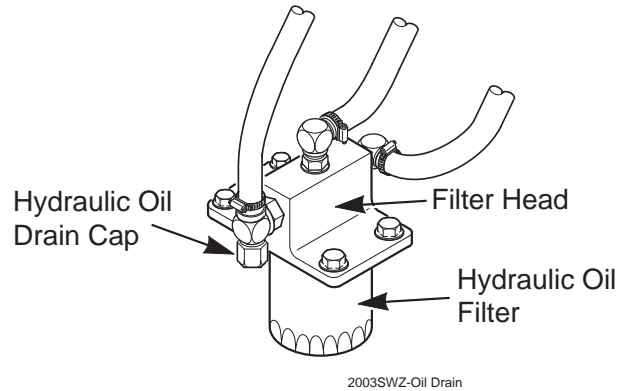

Figure 12 Hydraulic Oil Drain Cap
2. Place a suitable container under the hydraulic oil drain. Remove the fill cap from the reservoir. Remove the drain cap from the T-Fitting located on the hydraulic system filter head. (See Figure 12). Allow the fluid to drain into the container and properly discard it.
1. Remove the oil filter element (Figure 12) and properly discard it. Fill the new filter with clean oil and install the filter. Hand tighten only.